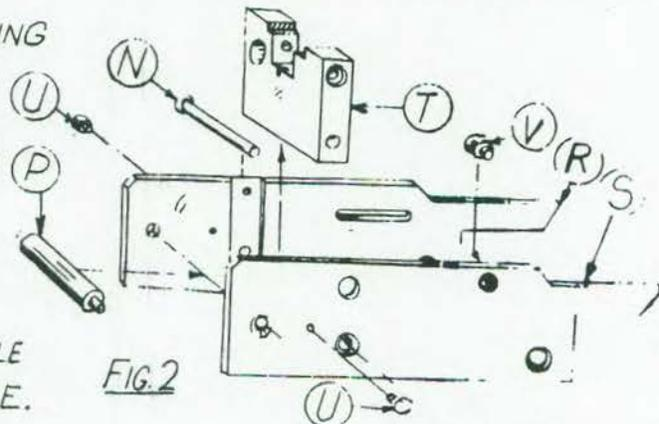

FIG. 2
15) PUSH OUT PIN (A) AND LIFT ACCELERATOR (B) FROM FRAME (G). DRIVE OUT PIN (C) WITH A SMALL PUNCH, RELEASING TRIGGER (E) AND SPRING (D). CAUTION SHOULD BE USED TO KEEP SPRING (M) FROM FLYING OUT WHEN REMOVING. PRY PIN (H) OF PLUNGER (F) FROM SLOT (K) IN FRAME (G), RELEASING SPRING AND PLUNGER. THE LOCK FRAME CONSISTS OF THREE MAIN PARTS: RIGHT SIDE (S), LEFT SIDE (R) AND SEPARATOR (T), ALL RIVETED TOGETHER, FIG. 2. THEY CAN BE TAKEN APART BY REMOVING RIVET (N) AND SPACER (P). REASSEMBLE WITH NEW RIVET (N) AND SPACER (P). GUIDES (U) AND STOP (V) MAY BE DRIVEN OUT IF NECESSARY. NEW ONES ARE INSERTED AND RIVETED OVER. GUIDES (U) ARE ROUND WHEN NEW AND MUST BE MILLED TO PROPER SHAPE AFTER ASSEMBLY.
16) TEST SPRING IN PIN (A) AND SPRING (M) FOR TENSION. SPRING (M) HAS A FREE LENGTH OF 4.45"-.05. IT SHOULD STAND A LOAD OF NOT LESS THAN 12 POUNDS AT 1.85" HEIGHT.
17) NOW REASSEMBLE IN REVERSE PROCEDURE FROM THAT USED IN ASSEMBLY. TOOL (W) IS USED TO ASSEMBLE SPRING (M) AND PLUNGER (F) INTO HOLE.